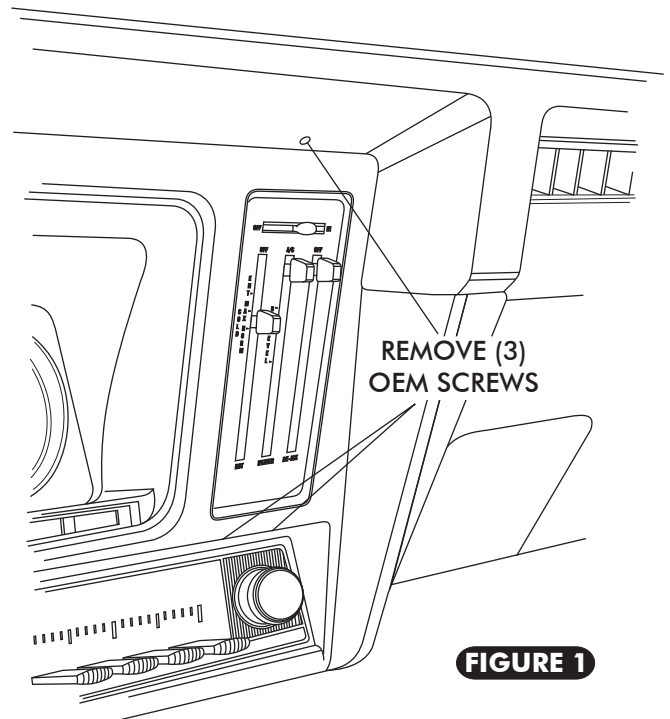

FIGURE 1
- ❑ REMOVE THE (3) OEM MOUNTING SCREWS FROM INSTRUMENT PANEL OF DASH (SEE FIGURE 1, BELOW).